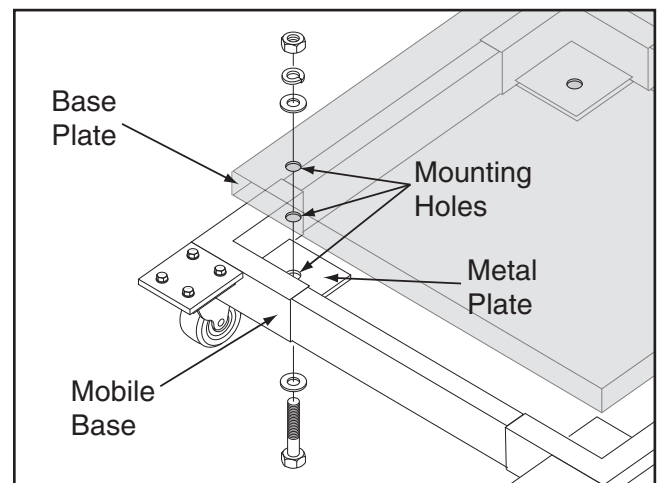

Figure 11. Mounting base plate to mobile base.
6. Secure base plate to mobile base with hex bolts, hex nuts, flat washers and lock washers, as shown in **Figure 11**.